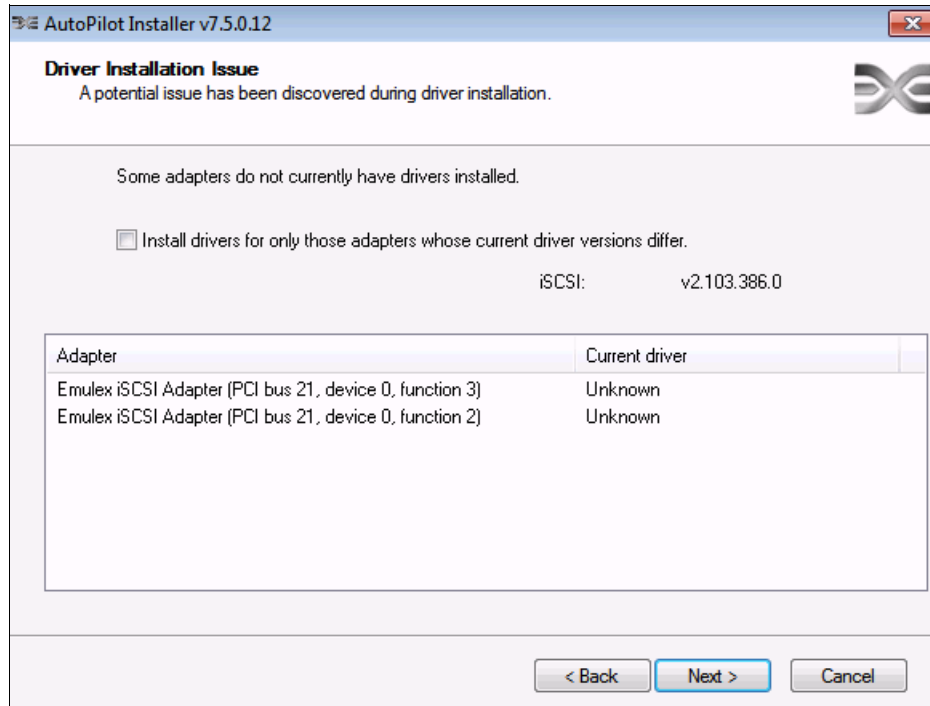

Figure 7-22 Emulex Autopilot iSCSI driver installation
6. If you see the Driver Installation Issue panel (Figure 7-22), select the **Install drivers for only those adapters whose current driver versions differ** check box, and then click **Next**.